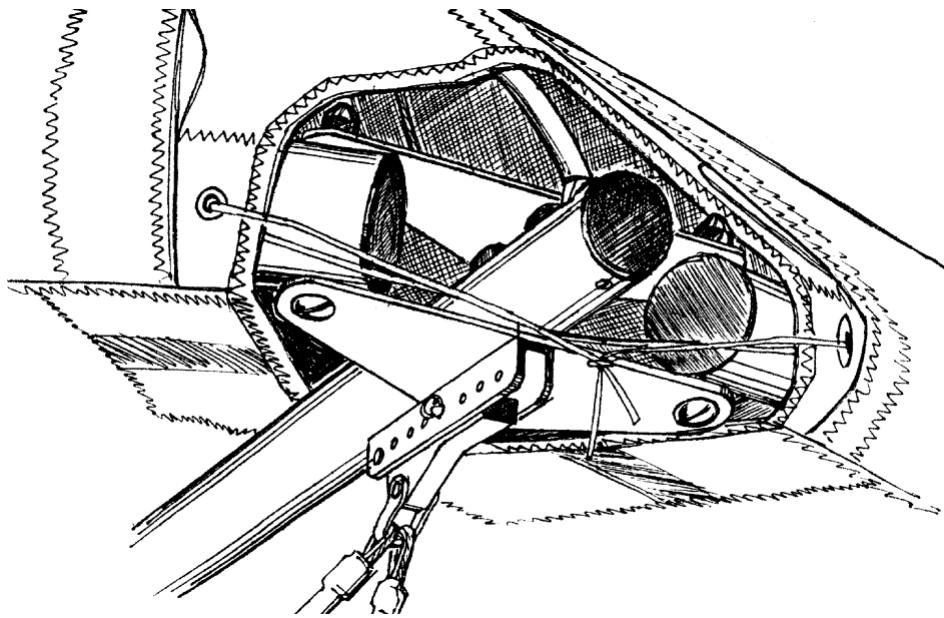

Fig. 28
2.2.10. Secure the lock of the bottom front wires in the channel of the nose assembly by the pin and the safety ring / quick pin (Fig. 28). If necessary, put the fork of the keel batten on the keel tube.